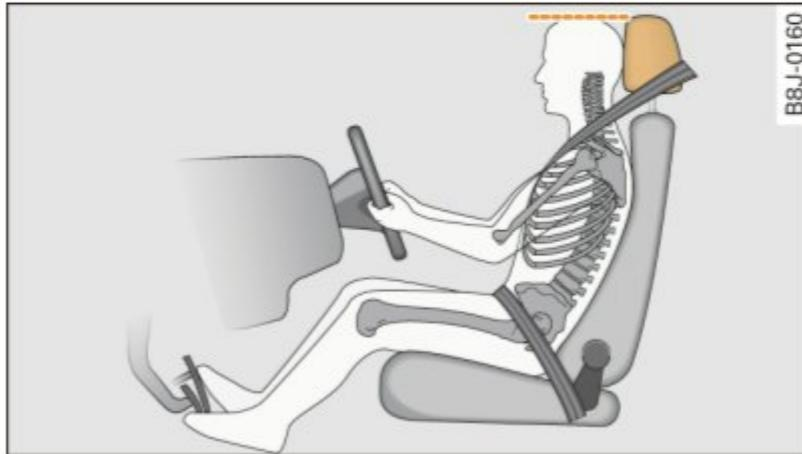

Fig. 158 Correctly adjusted head restraint viewed from the side
- Adjust the head restraint so that the upper edge of the restraint is level with the top of your head, but no lower than eye level and so it is as close to the back of your head as possible ⇒ *page 151*, fig. 158.